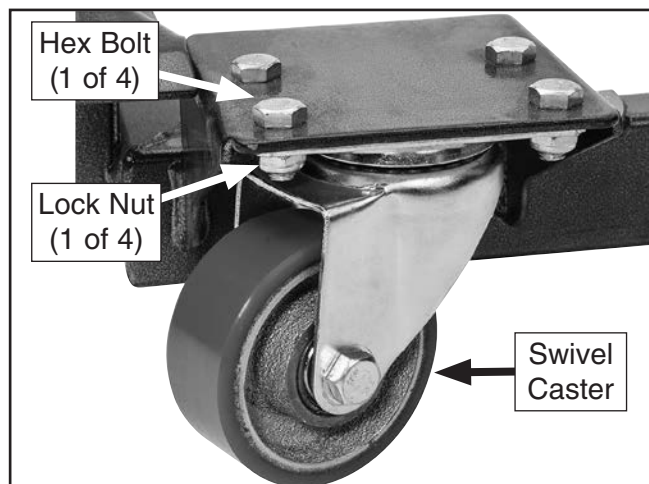

Figure 21. Swivel caster attached corner bracket.
13. Attach swivel casters to each corner of assembly using (4) M8-1.25 x 16 hex bolts and (4) M8-1.25 lock nuts (see **Figure 21**).